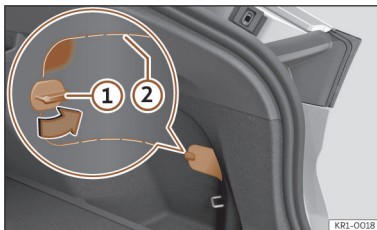

Fig. 61 On the lower right-hand side of the luggage compartment trim: cover with cutting lines.
- Turn the cover lock through 90° >>> **Fig. 61** ①.
- Press the surface over the lock inwards >>> **Fig. 61** (marked zone).
- Insert your hand through the opening and pull the cover off. If necessary, apply a suitable object along the cutting lines >>> **Fig. 61** ②.